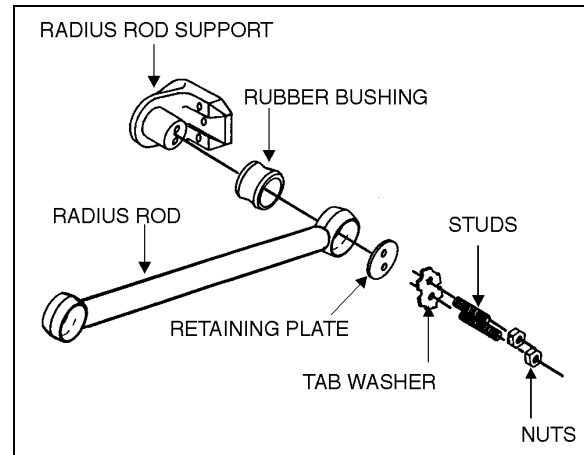

FIGURE 6: TYPICAL RADIUS ROD SETUP
1. Flatten the tab washer which secures the two retaining nuts (or bolts), then unscrew the nuts (or bolts) at each extremity of the radius rod (Fig. 6).